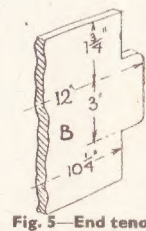

Fig. 5—End tenon and rail dimensions
Using a fretsaw, cut round the outline, not forgetting the recess or open mortise in the upper part of the straight back edge. This mortise is to take the end tenon on rail (B), which is again seen in the detail in Fig. 5. When cutting is done, clean up the edges of the wood and bore two holes between the two cross dotted lines to take the screws which hold the shelf (C) secure.